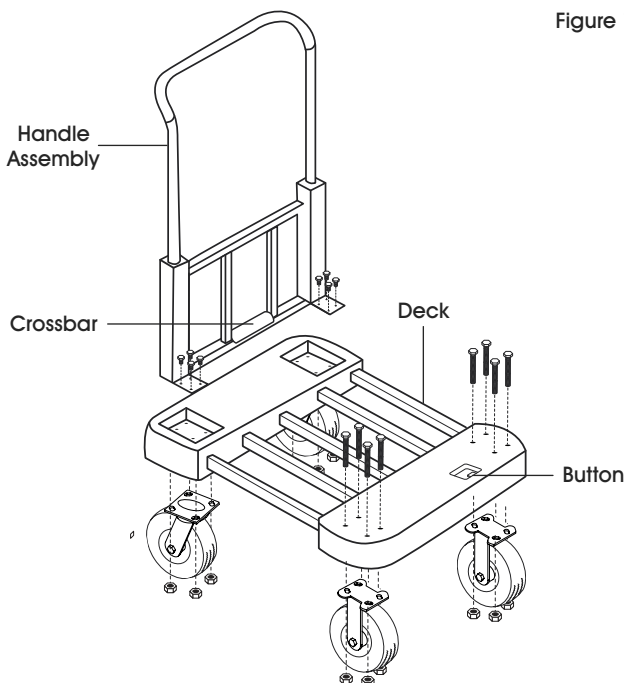

Figure 1
1. Align handle assembly with deck and swivel casters. Secure with short bolts and eight nuts. (See Figure 1)
2. Align rigid casters with deck. Attach with long bolts and eight nuts. (See Figure 1)
3. Adjust deck to desired length using button in the top of deck. (See Figure 1)
4. Collapse handle by pressing down on crossbar in the center of handle assembly and pushing it forward. (See Figure 1)